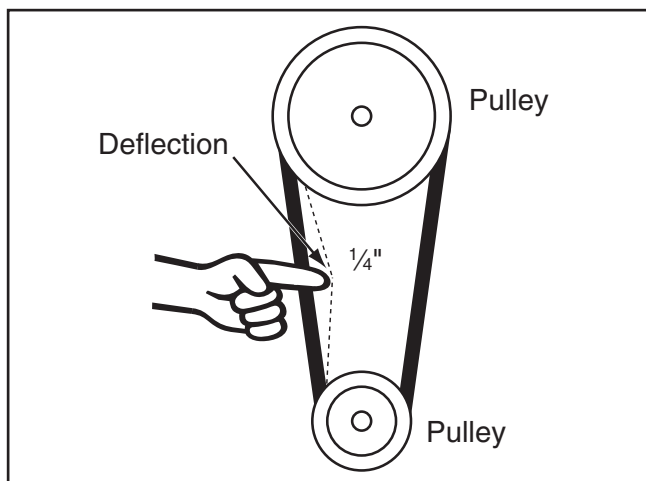

Figure 88. Checking belt tension.
5. Push the center of the V-belt with your finger to check belt tension. The belt is correctly tensioned when there is approximately $\frac{1}{4}$ " deflection when it is pushed with moderate pressure, as shown in **Figure 88**.